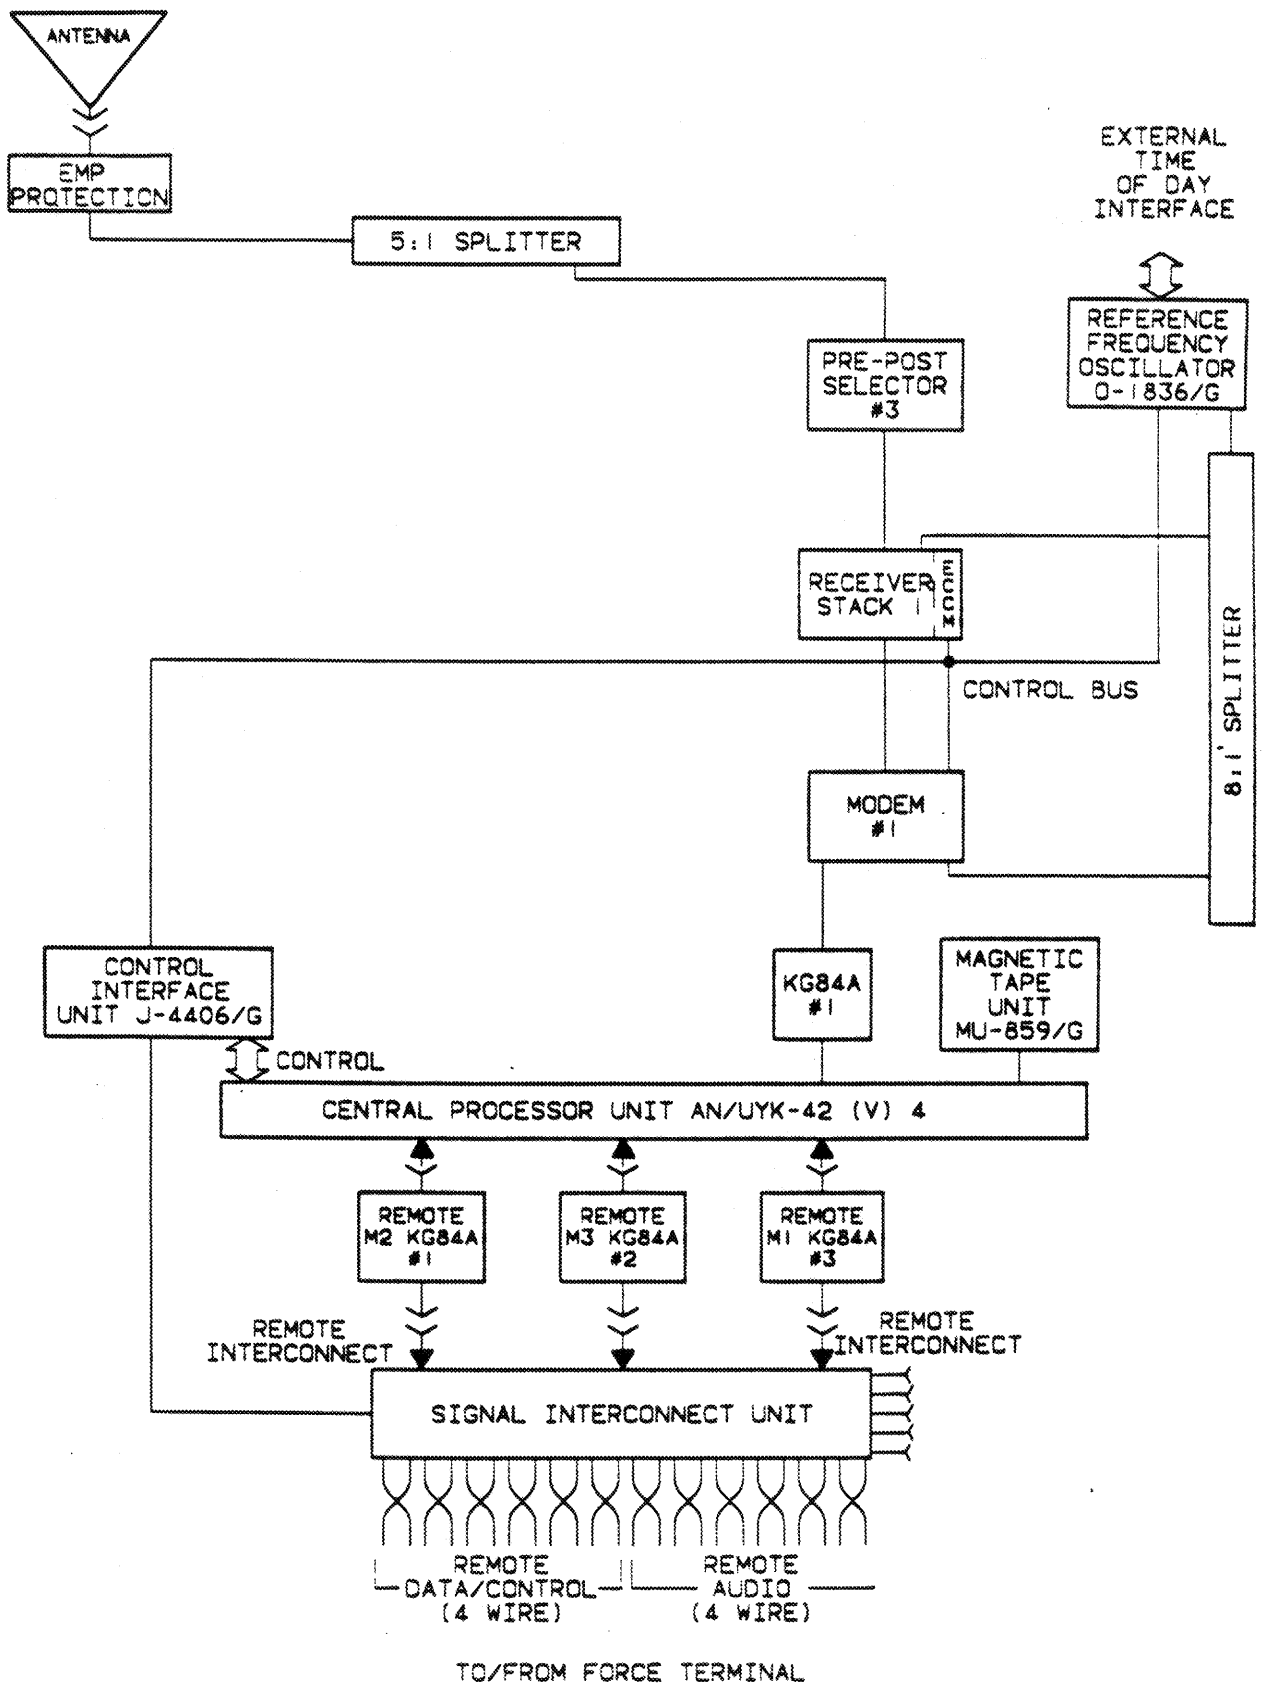

Figure 3-5. Data Signal Flow Diagram
b. The HF signal is received by the antenna (see Figure 3-5). The antenna passes the signal to the 5:1 splitter, which takes one input and provides five outputs, one for each receiver. Each output from the splitter is passed to a P/PS. The P/PS provides filtering, and passes the HF signal to the receiver. The receiver then passes the baseband audio signal to the RN modem. The modem converts the receive audio signal into digital data. The digital data is then routed to a KG-84A. The KG-84A decrypts the digital data and passes it to the RXS CPU. The RXS CPU routes the decrypted digital data to a remote interconnect KG-84A. The KG-84A encrypts the data and passes it to the RXS SIU. The SIU has built-in send and receive modems, and it uses these modems to convert the digital encrypted data into an audio signal. The audio signal passes over the 4-wire remote data/control interconnect circuits, to the TXS SEP. The SEP internal modems then convert the audio signal back into digital encrypted data, and pass it to the TXS remote interconnect KG-84As. The KG-84As decrypt the digital data and output the clear text data to the CPU. The CPU processes the digital clear text data in the TXS as if it were a data signal within a normal Force Terminal receiver.